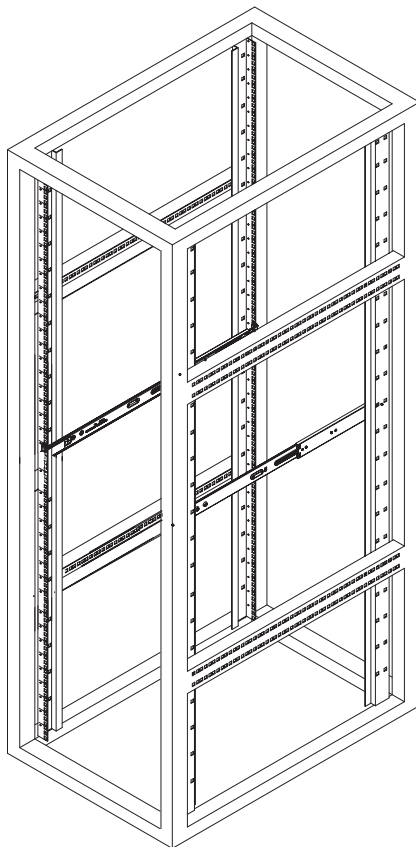

Figure 2-5 Outer Rack Rail Assembly/Placement Example
2. Adjust the outer rails to the proper length to fit within the rack. See the placement example in Figure 2-5 on page 17.